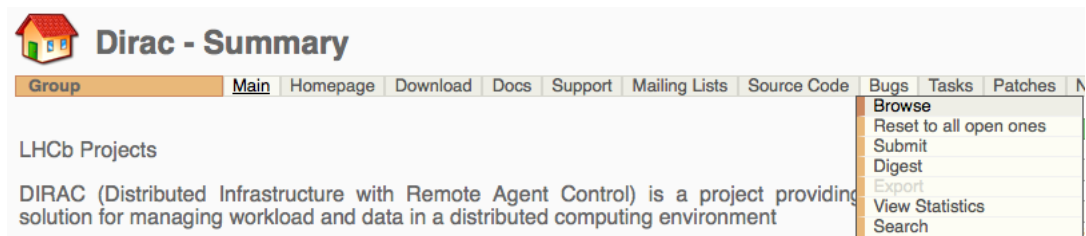

Figure 8: Browse current bugs.
- Browse the existing bugs and ensure the user's bug has not been previously submitted (Fig. 8).